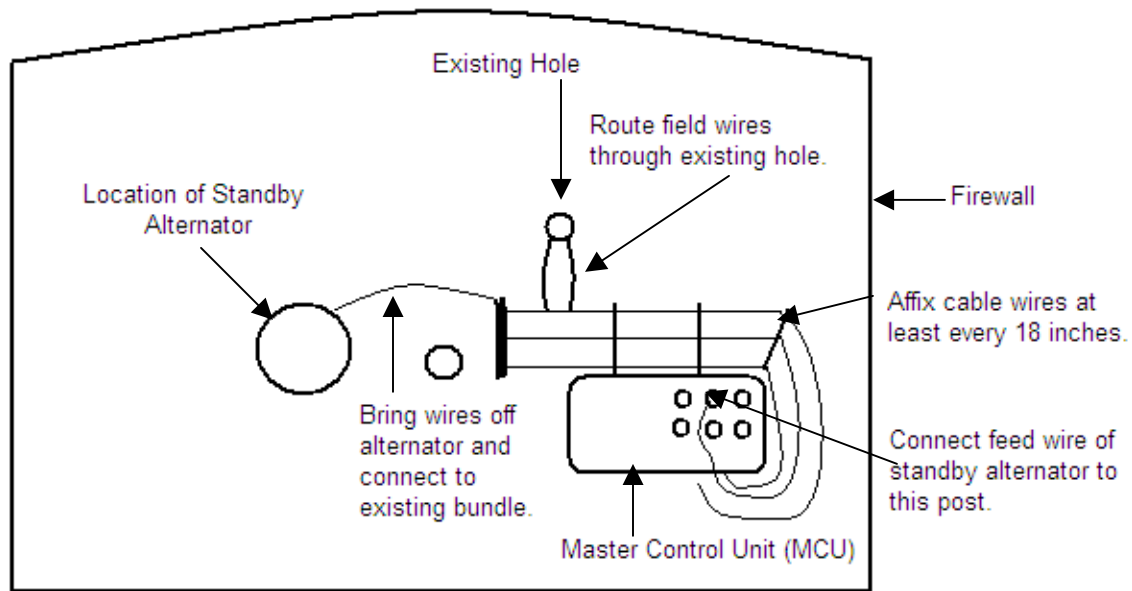

Figure 5
2. The wiring from the alternator to the Master Control Unit (MCU) and Alternator controller/voltage regulator is routed through an existing hole in the firewall. If provisions for a hole are not found, then contact your local FAA office to obtain approval for drilling a hole in the firewall. Install an aircraft approved grommet P/N MS35489-9. Seal the grommet with High Temperature RTV #736. Ty-Wraps P/N MS3367-1-9 Item (item 22) should be used to secure harness as required to route from alternator to location of firewall grommet. Reference Figure 5, Illustration III, and Illustration IV in App. B for grommet location and installation.
3. Route the 20 gauge field wire and the three color coded current sense wires to the location of the Standby Alternator Controller BC203-2D. Route the 10 gauge wire from the current sensor (installed in supplied harness and shrink wrapped for protection) to the location of the 40 amp circuit breaker. Reference Illustration VII and VIII for circuit breaker location. Install the supplied 10 gauge wire segment part of (item 3) that will be terminated to the load side of the 40 amp breaker on the Alternator feed post and protect with an insulator (item 17). Route the 20 gauge wire from the “STBYALT” Field Switch to the location of the Controller. Route the additional 10 gauge wire from the line side of
the 40 amp Circuit breaker to the post on the Master Control Unit (MCU) P/N 83100-344 to be terminated later in this document. Reference Illustration V for location of MCU and Figure 5 for routing of this wire from alternator to MCU. The additional 10 gauge wire is routed through the existing tubing that is indicated by the black arrow in Illustration V or it can be secured using ty-wraps (item 22) as described in Figure 5.
9. Terminate added 10 gauge wire segment at the MCU to post depicted by white arrow in Illustration V also reference Figure 5 for location of post.
Additional 10 gauge wire from line side of "STBY ALT" 40 amp breaker, "STBY ALT" field sense switch, and 1amp "STBY ALT SENSE" breaker to post on MCU indicated by white arrow in Figure 5. This can be done by routing 10gauge wire from field switch to 1 amp circuit breaker and a jumper from 1 amp breaker to 40 amp breaker. Then route 10 gauge wire from 40 amp breaker to post on MCU.